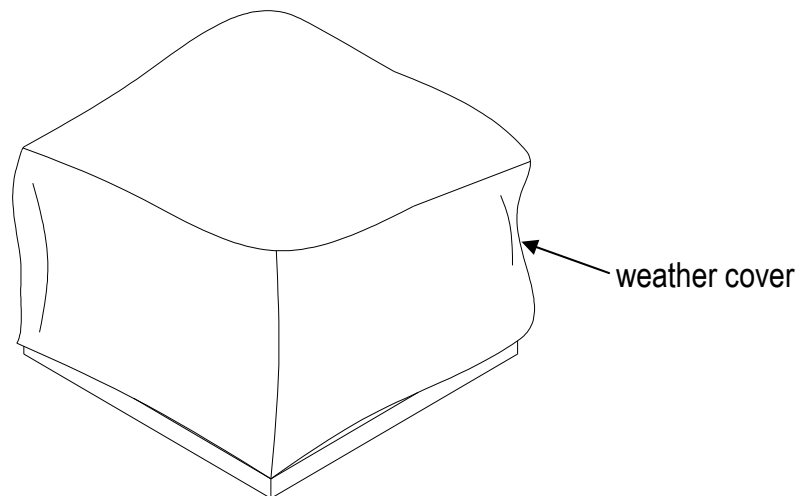

Figure 4
7. Cover the fire pit with the outdoor weather cover when not in use to protect it from the elements or when fire pit is cool COMPLETELY after the use, see Figure 4.